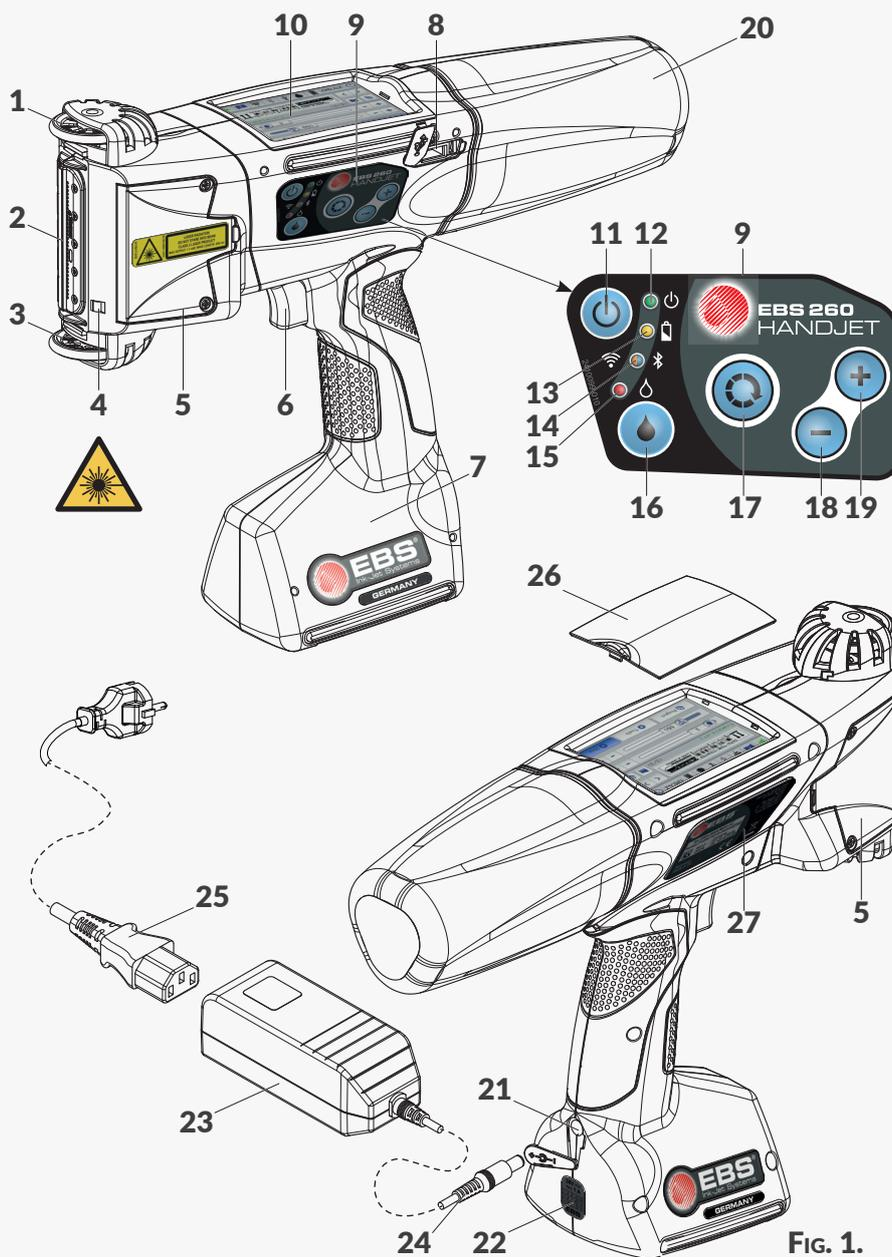

FIG. 1.
* DEPENDING ON A GIVEN COUNTRY, POWER PLUG MAY DIFFER FROM THAT SHOWN IN FIG. 1.